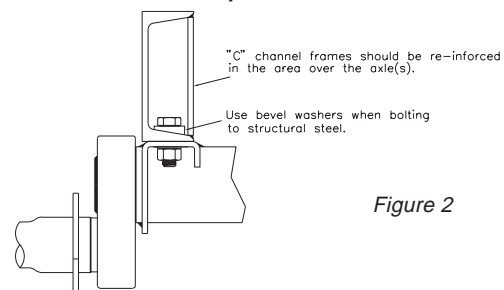

Figure 2
b. For "C" channel or "I" beam type frame, refer to figure 2.